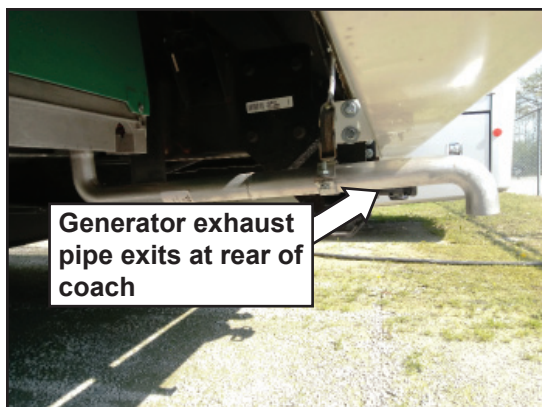

Figure 1 – Correct Installation
4. At the driver's side, rear of the coach, locate the generator exhaust pipe and determine whether it exits on the side of the motorhome or out the rear, under the bumper. See Figures 1 & 2 for both examples of exhaust pipe routing.
For Non-Defective Units: Take photos that clearly show that the generator exhaust pipe has been properly routed. Submit the photos with an authorization request for Inspected/Not Defective. See Figure 1 (Page 2) for an exemplar photo.
- After completing repairs, take several photos that clearly display the corrected routing of the generator exhaust out the rear of the coach, under the bumper. See Figure 1 (Page 2) for an exemplar photo. Submit both sets of photos with an authorization request for Inspected/Defective/Repaired.